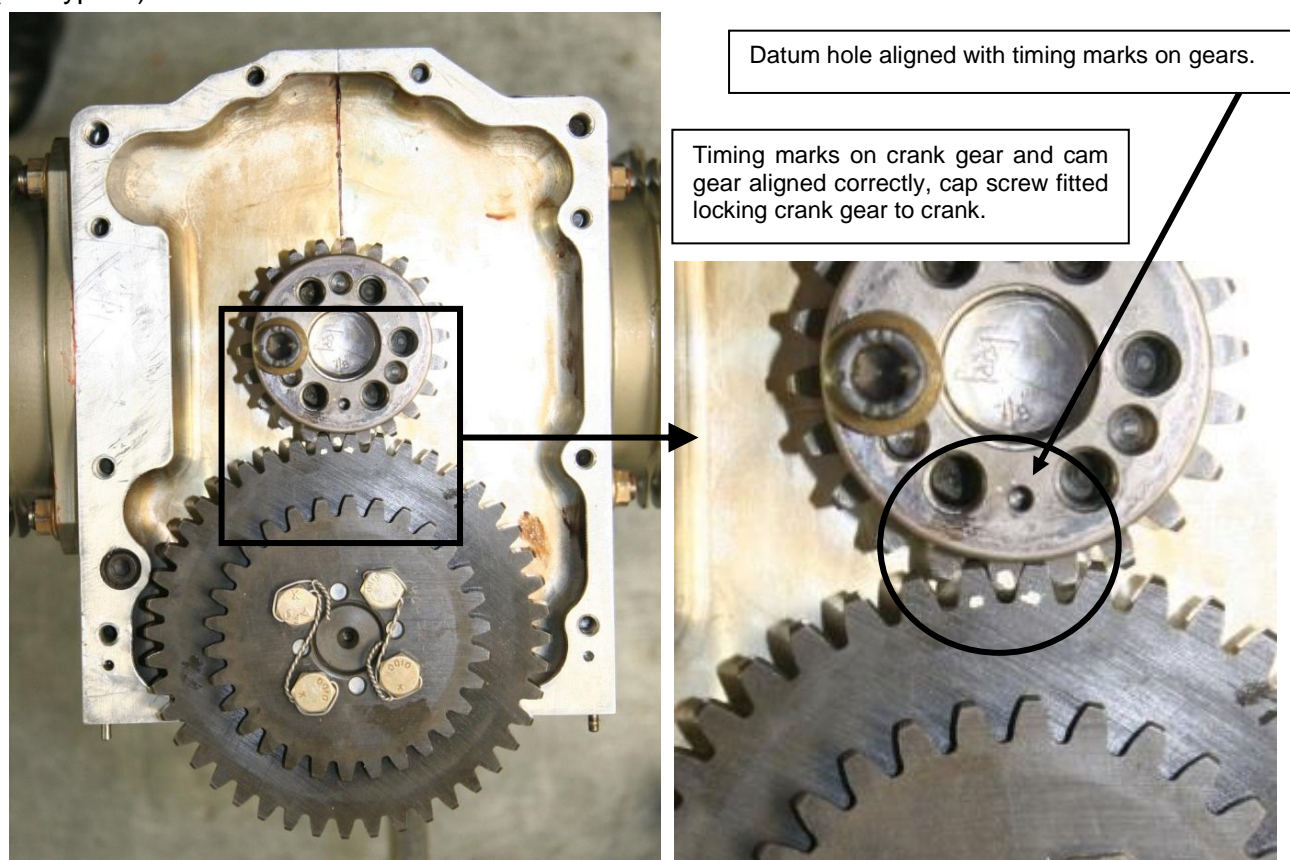

Figure 159 – Setting Cam Timing
- Rotate the cam until the two timing marks on the large cam gear are pointing towards the crankshaft. The camshaft drive gear can now be fitted to the end of the crank as shown in Figure 159 – so that the tooth on the crankshaft gear with the timing mark is between the two teeth of the cam gear with timing marks.